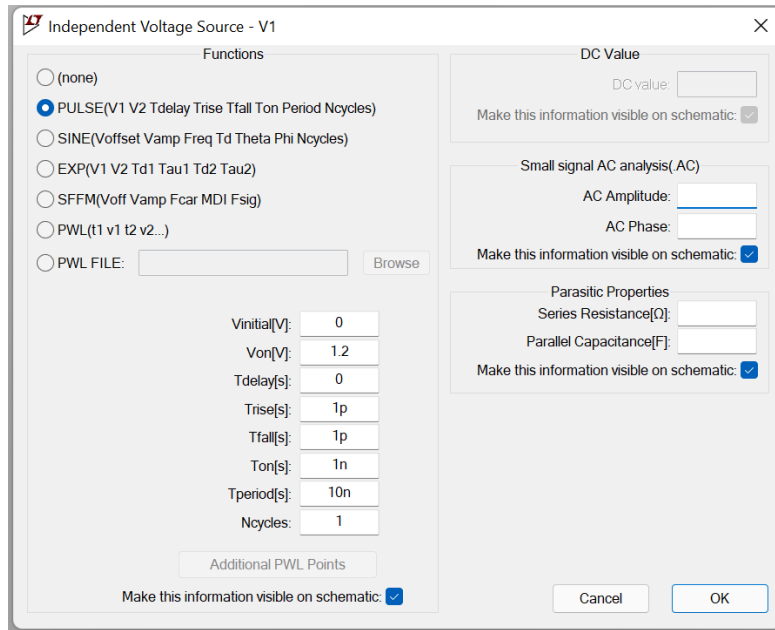

Fig. 4. PULSE voltage source settings
3. Generator V1 will be set to generate a voltage pulse. The setting is made by right-clicking on the generator symbol V1 and the Advanced button. Select PULSE signal and enter signal parameters (Fig. 4). Then click OK.